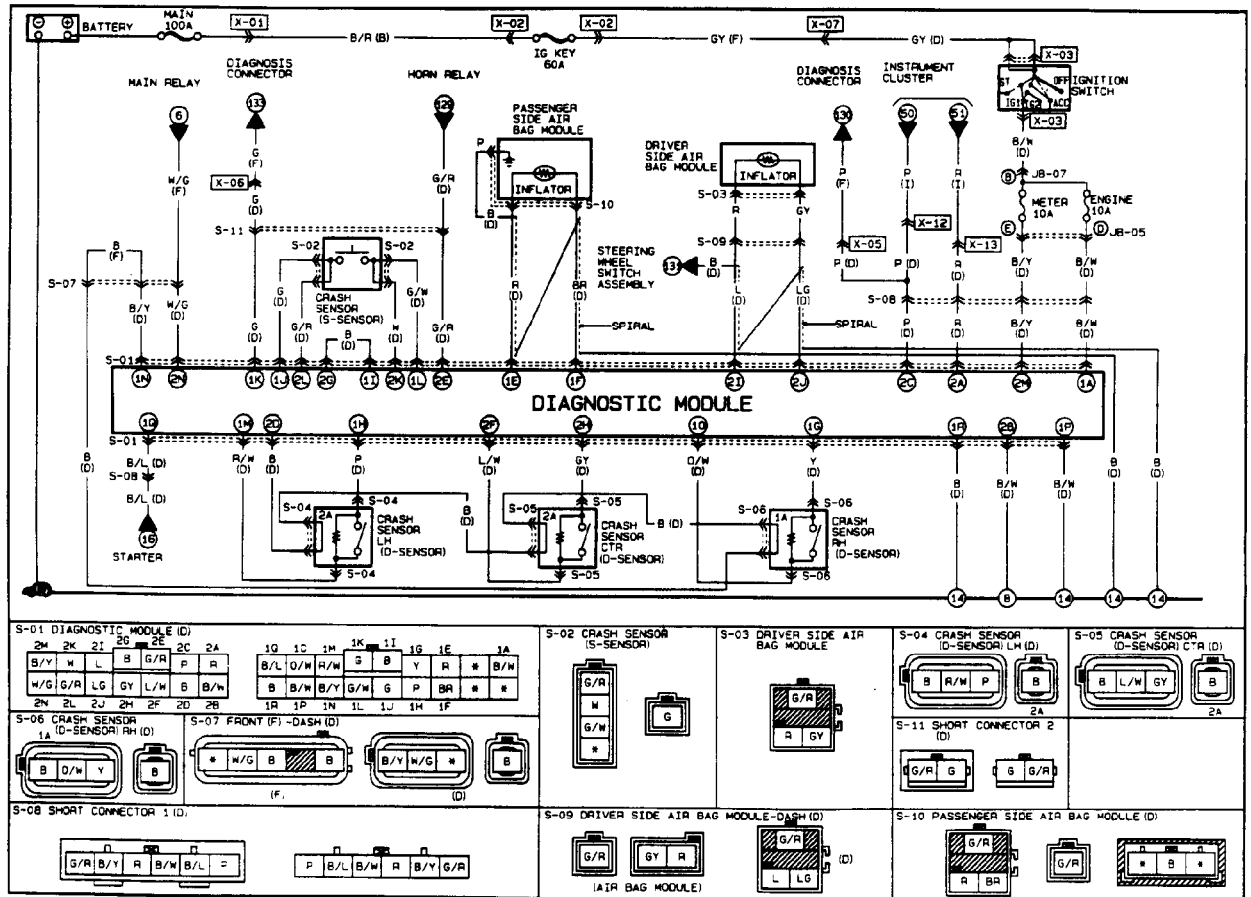

Fig. 14: Air Bag System Wiring Diagram (929)
1) Using Deployment Tool (49-H066-002), connect Red clip to battery positive terminal and Black clip to battery negative terminal. Observe deployment tool Green and Red lights. See Fig. 14. Green light should be on and Red light should be off.